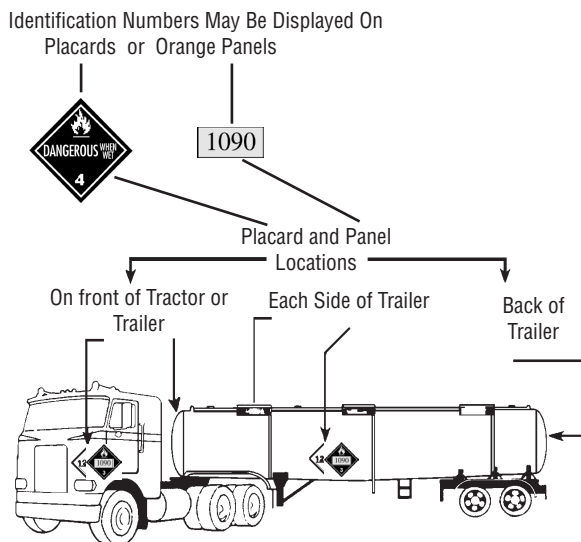

Figure 9-2 Placard and Panel Locations
**Placards** are signs used to warn others of hazardous cargo and are put on the outside of a vehicle to show the hazard class of the cargo. A placarded vehicle must have at least 4 placards representing the applicable hazard. They are attached to each side and each end of the vehicle, as shown in Figure 9-2. Placards must be readable from all four directions. There are 22 DOT specification placards. They are 10 3/4 inches square, turned upright on a point, in a diamond shape. Cargo tanks and other bulk